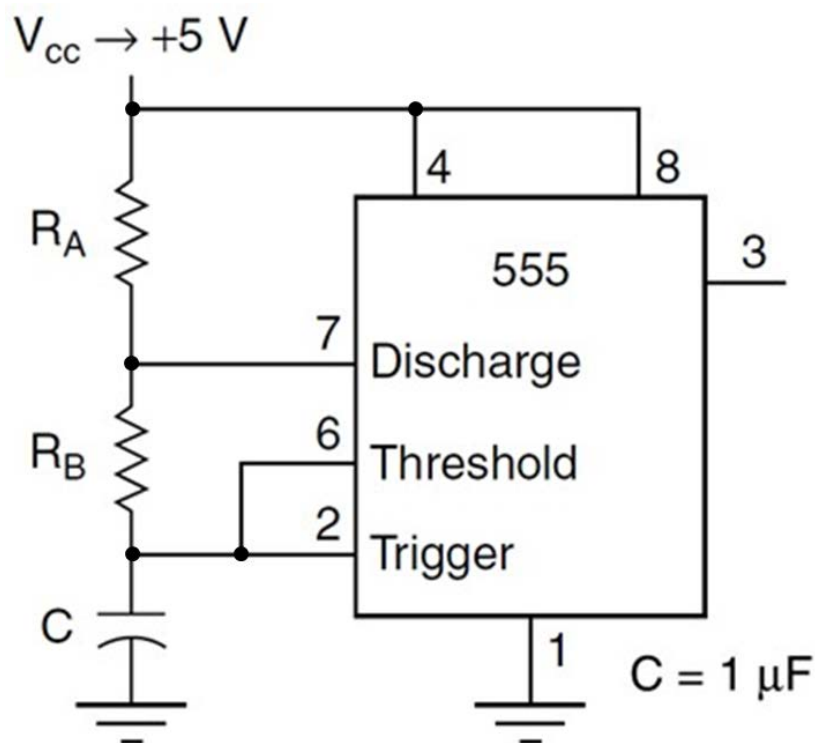

Figure 13. 555 Timer-Based Digital Clock Circuit.
2. Build the clock circuit on the breadboard as shown in Figure 13. Power (+5 V) goes to pins 8 and 4, and the ground goes to pin 1. The timing chain of R_A , R_B , and C straddles the power supply. It has a connection between the resistors going to pin 7 and a connection between R_B and C going to pins 2 and 6.